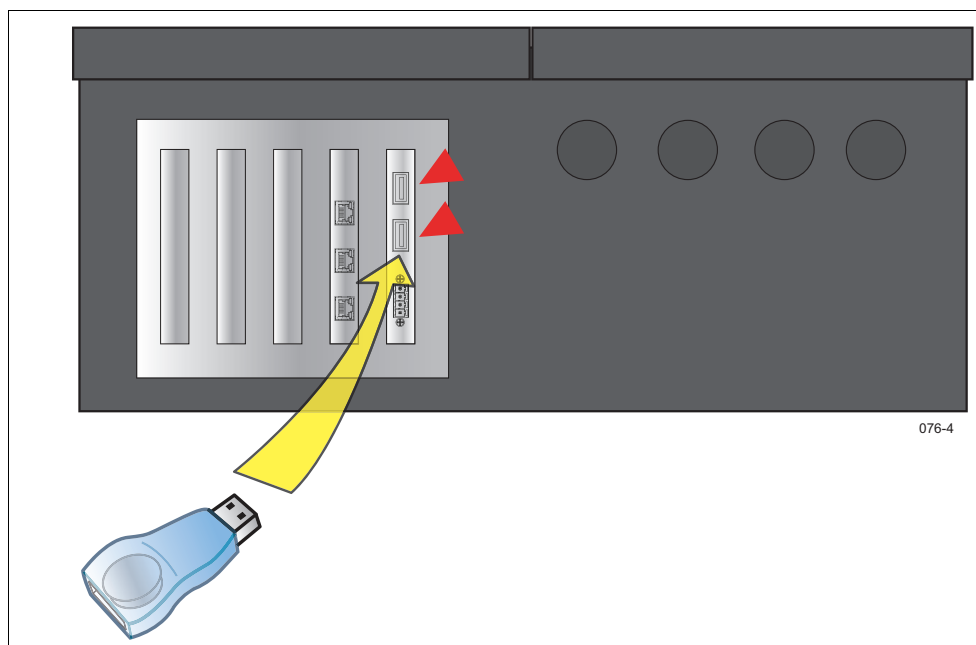

Figure 21. Insert The iButton Adapter Thumb Drive Into A USB Port On The Console
2. Insert the USB Adapter into one of the two USB ports in the bottom of the console as shown in Figure 21 below.